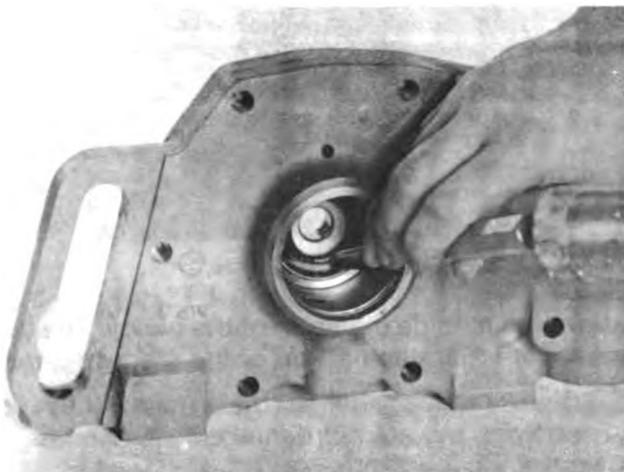

Fig. 8-37 (N10878). Remove The Seal From The Housing.
6. Remove the cupseal (17, Fig. 8-34). Use a drift to push the grease seal (11) and face seal (15) from the housing as shown in Fig. 8-37. Discard the cupseal and seals.